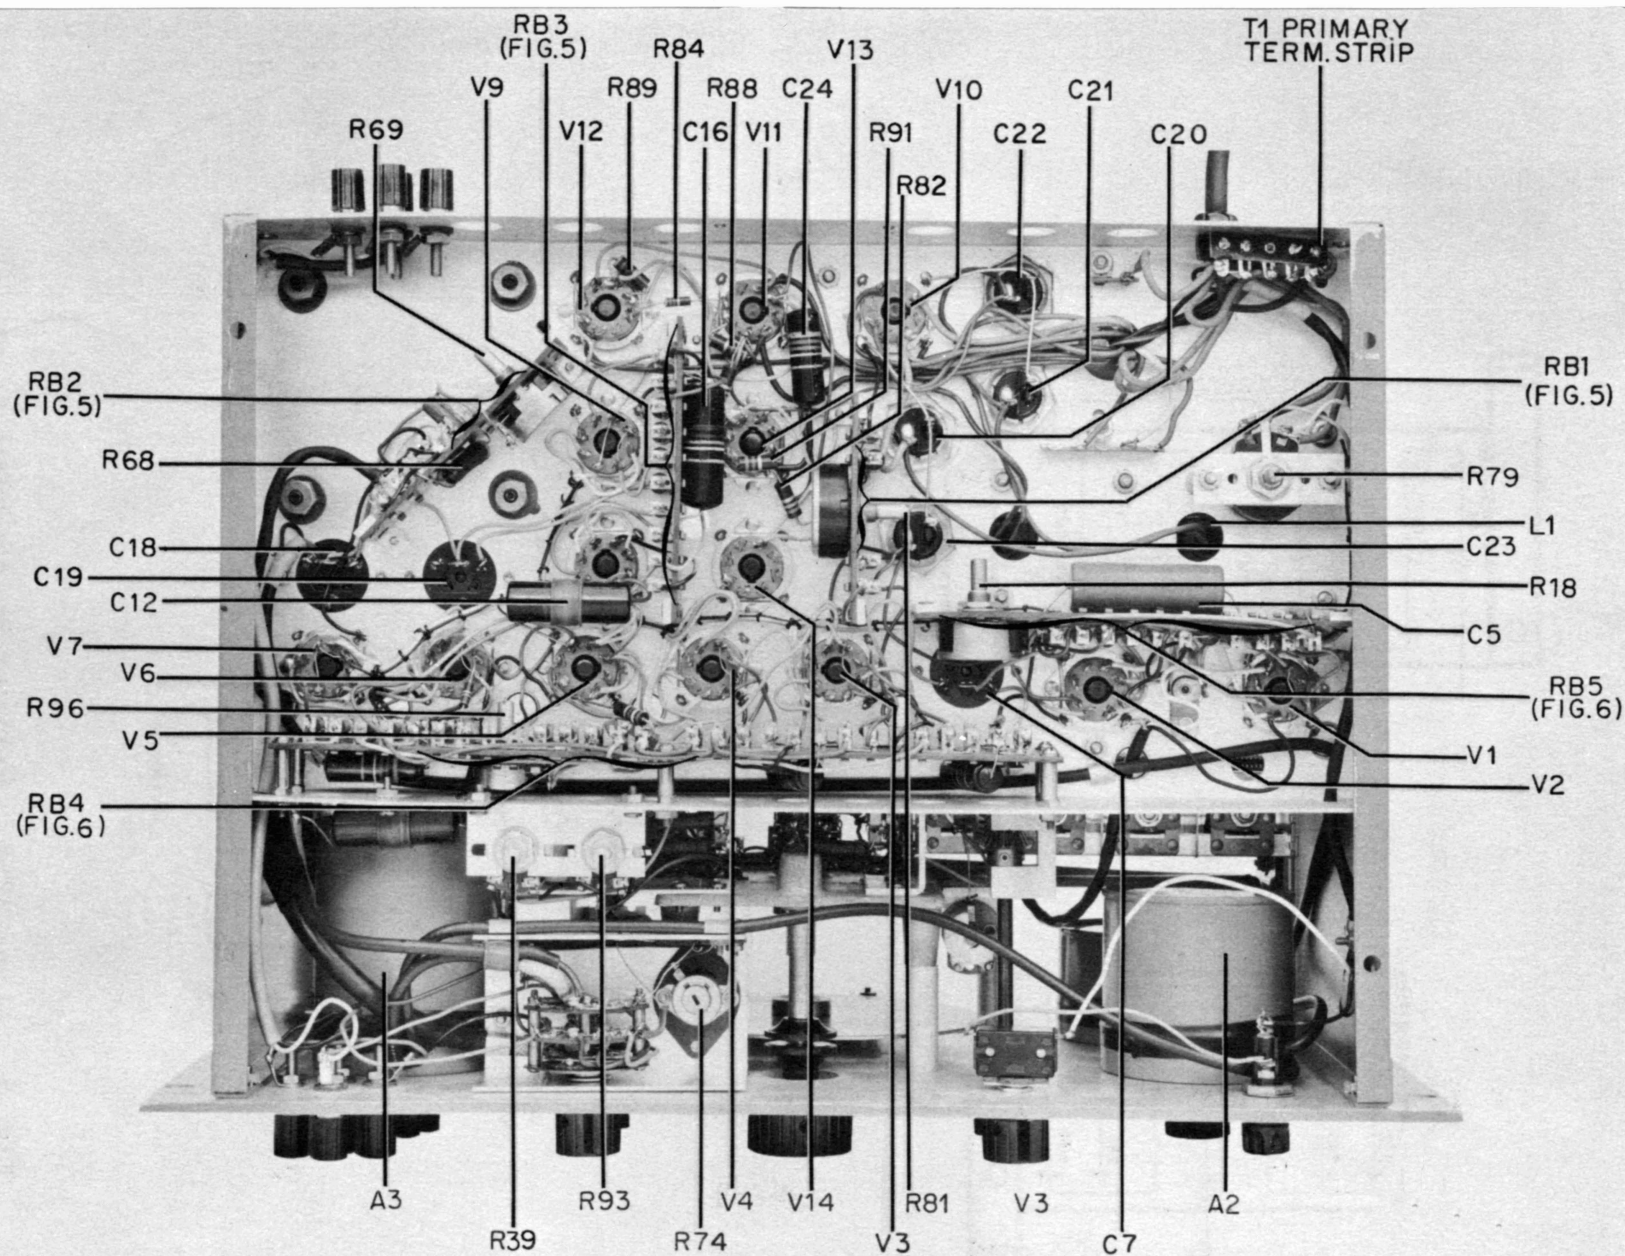

Fig. 4. Model 206A Bottom View Bottom Plate (or Cabinet) Removed
3. Adjust resistor R81 (located as shown in Fig. 4) as necessary to bring the voltage within the proper range.
1. Connect a high-impedance vacuum tube voltmeter, such as a Hewlett-Packard Model 400B, C, or D to the center tap of variable resistor R18 (Fig. 4). With the Model 206A generating 1,000 cycles, the voltage from the center tap of R18 to ground should measure 21 volts ± 1 volt.
3. If amplifier gain is too low or too high, adjust variable resistor R96 (Fig. 4) to obtain approximately a 24 db gain.
Variable resistor R79 (Fig. 4) provides an adjustment for minimizing the beat between the oscillator and the power supply frequency. Either of two methods may be used for the adjustment.
4. Switch the IMPEDANCE control to 600G, and adjust resistor R74 (located as shown in Fig. 4) until a 4-volt indication is obtained on the external voltmeter. Repeat until there is no change between the output levels at the 600 and 600G positions.